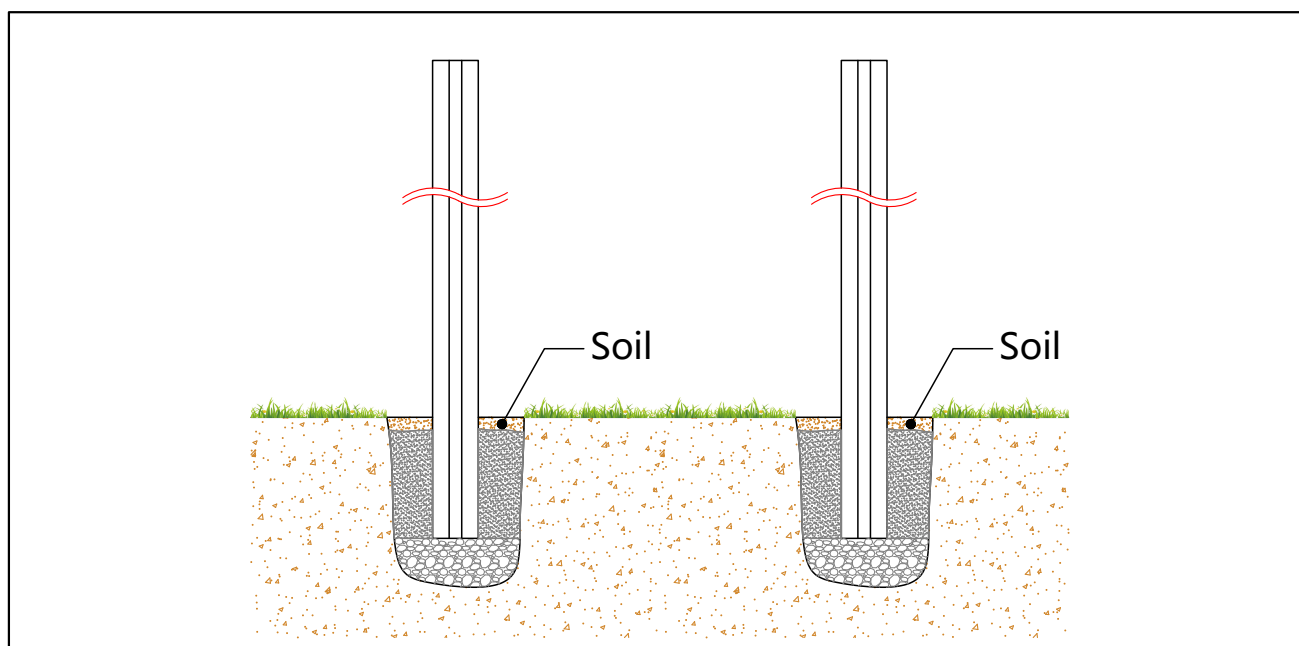

Figure 7
- 7 After the concrete has set and hardened, fill the top with soil as shown in Figure 7.